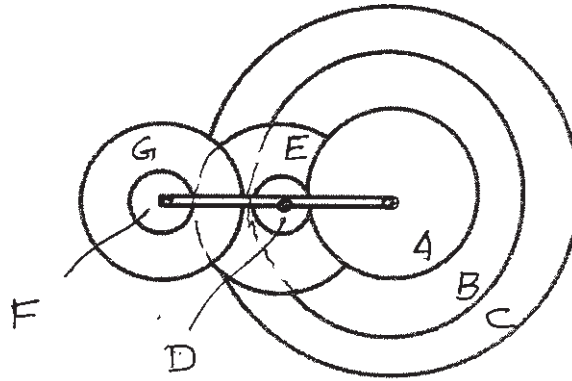

Figure 1: Q. 11
- Q11)a)** Figure 1 shows a gear train in which gears D-E and F-G are compound gears. D gears with A and B; E gears with F; G gears with C. The numbers of teeth on each gear are  $A = 60$ ,  $B = 120$ ,  $C = 135$ ,  $D = 30$ ,  $E = 75$ ,  $F = 30$ ,  $G = 60$ . If the wheel A is fixed and arm makes 20 revolutions clockwise, find the revolutions of B and C. If arm is applied a turning moment of 1 kN-m, determine the turning moment on the shaft supporting the wheel C. [12]